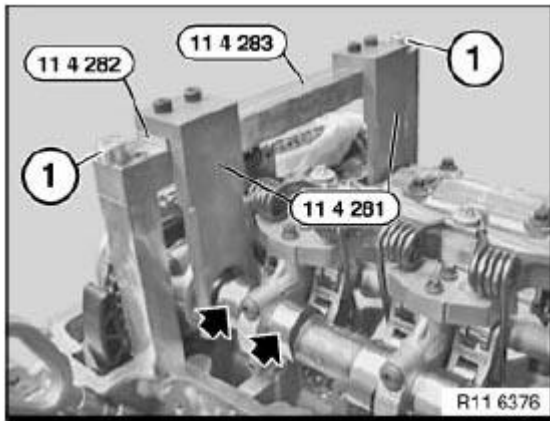

Fig. 173: Identifying Special Tools
Secure special tool 11 4 283 on cylinder head with screws (1). See **Fig. 173**.
NOTE: Fit special tool 11 4 282 underneath on inlet side. See **Fig. 173**.
Mount special tool 11 4 281 on inlet and exhaust camshafts. See **Fig. 173**.